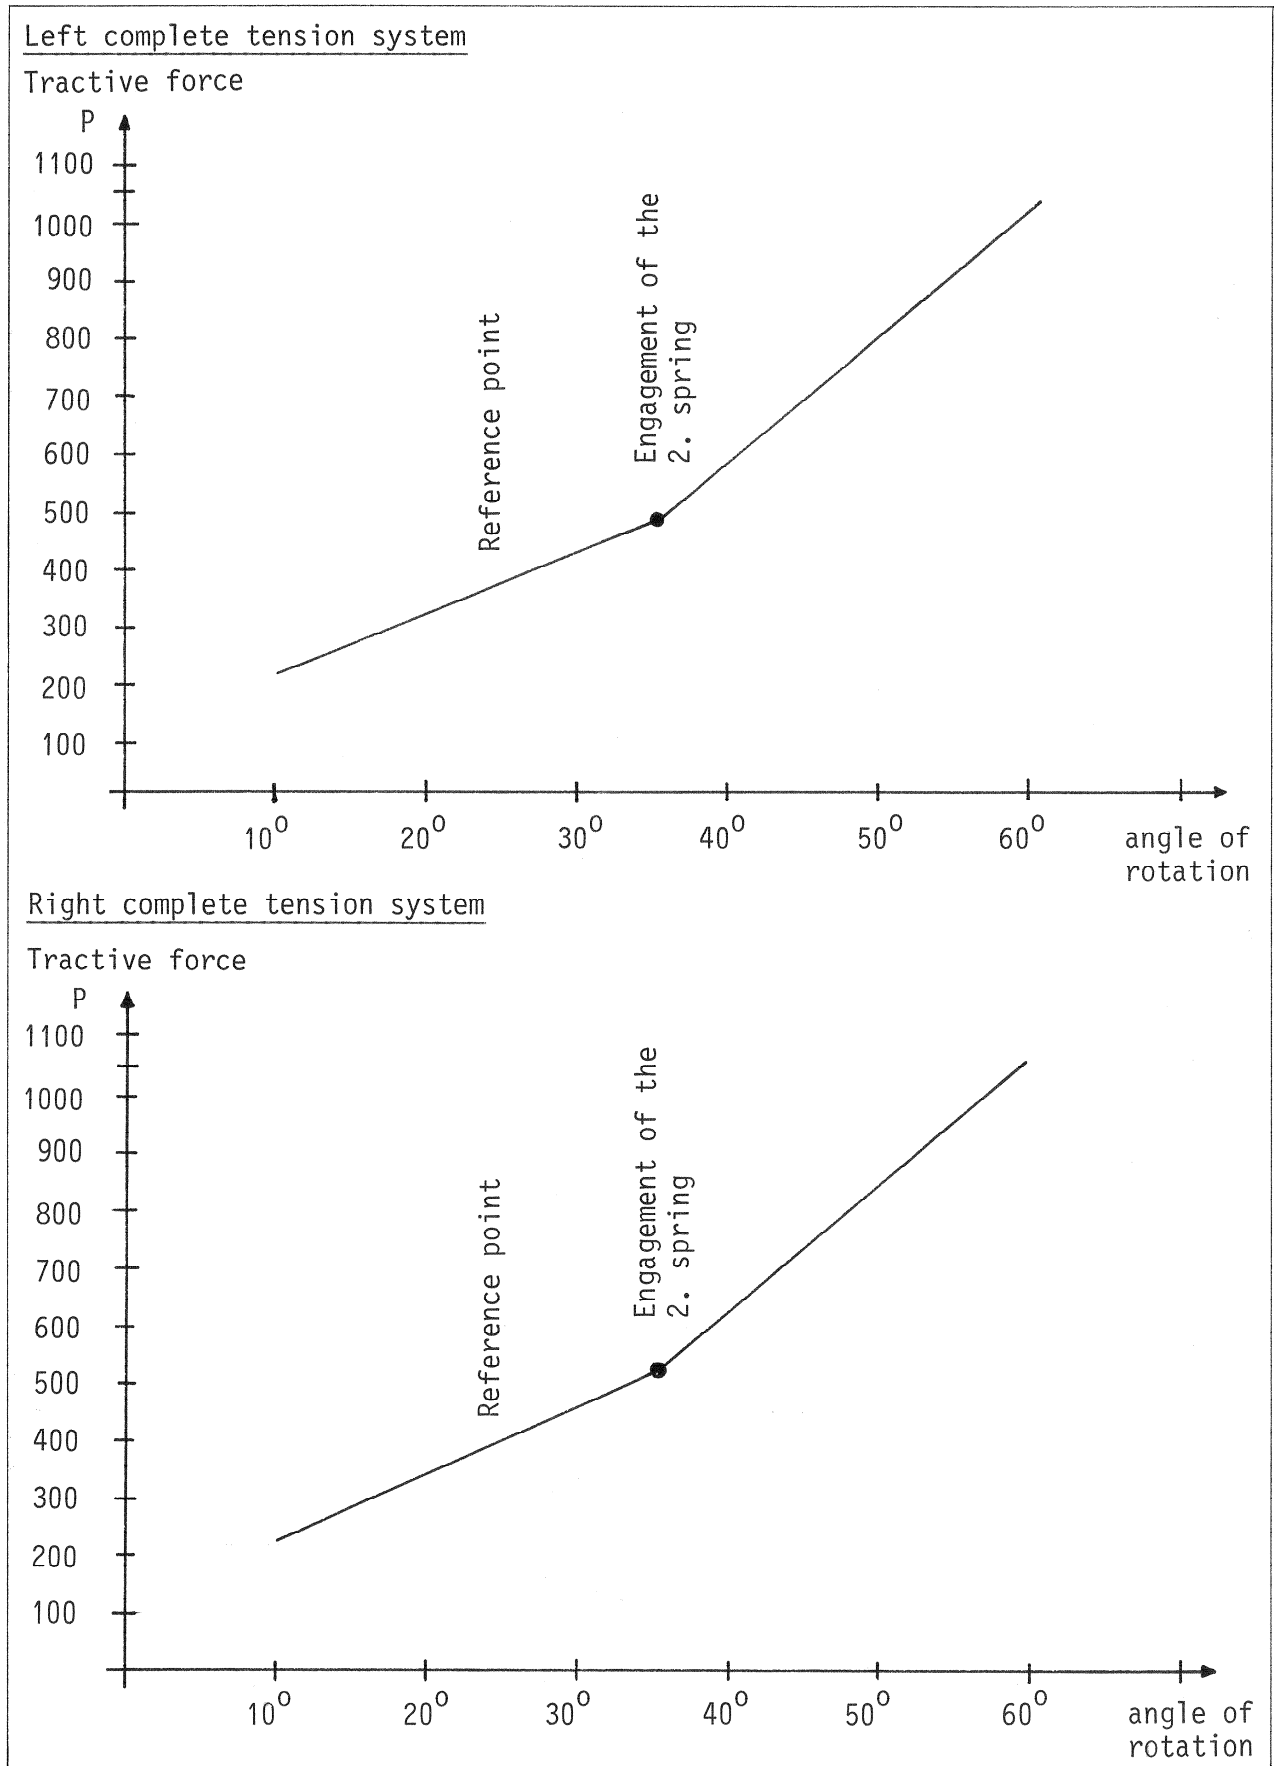

Figure 25
Adjust spring (2) with (7) and (8) in such a manner that the following spring characteristic (see Fig.25) is obtained for the complete left-hand spring system.
Adjust spring (4) with (11) and (12) in such a manner that the following spring characteristic (see Fig. 25) is obtained for the complete right-hand spring system.